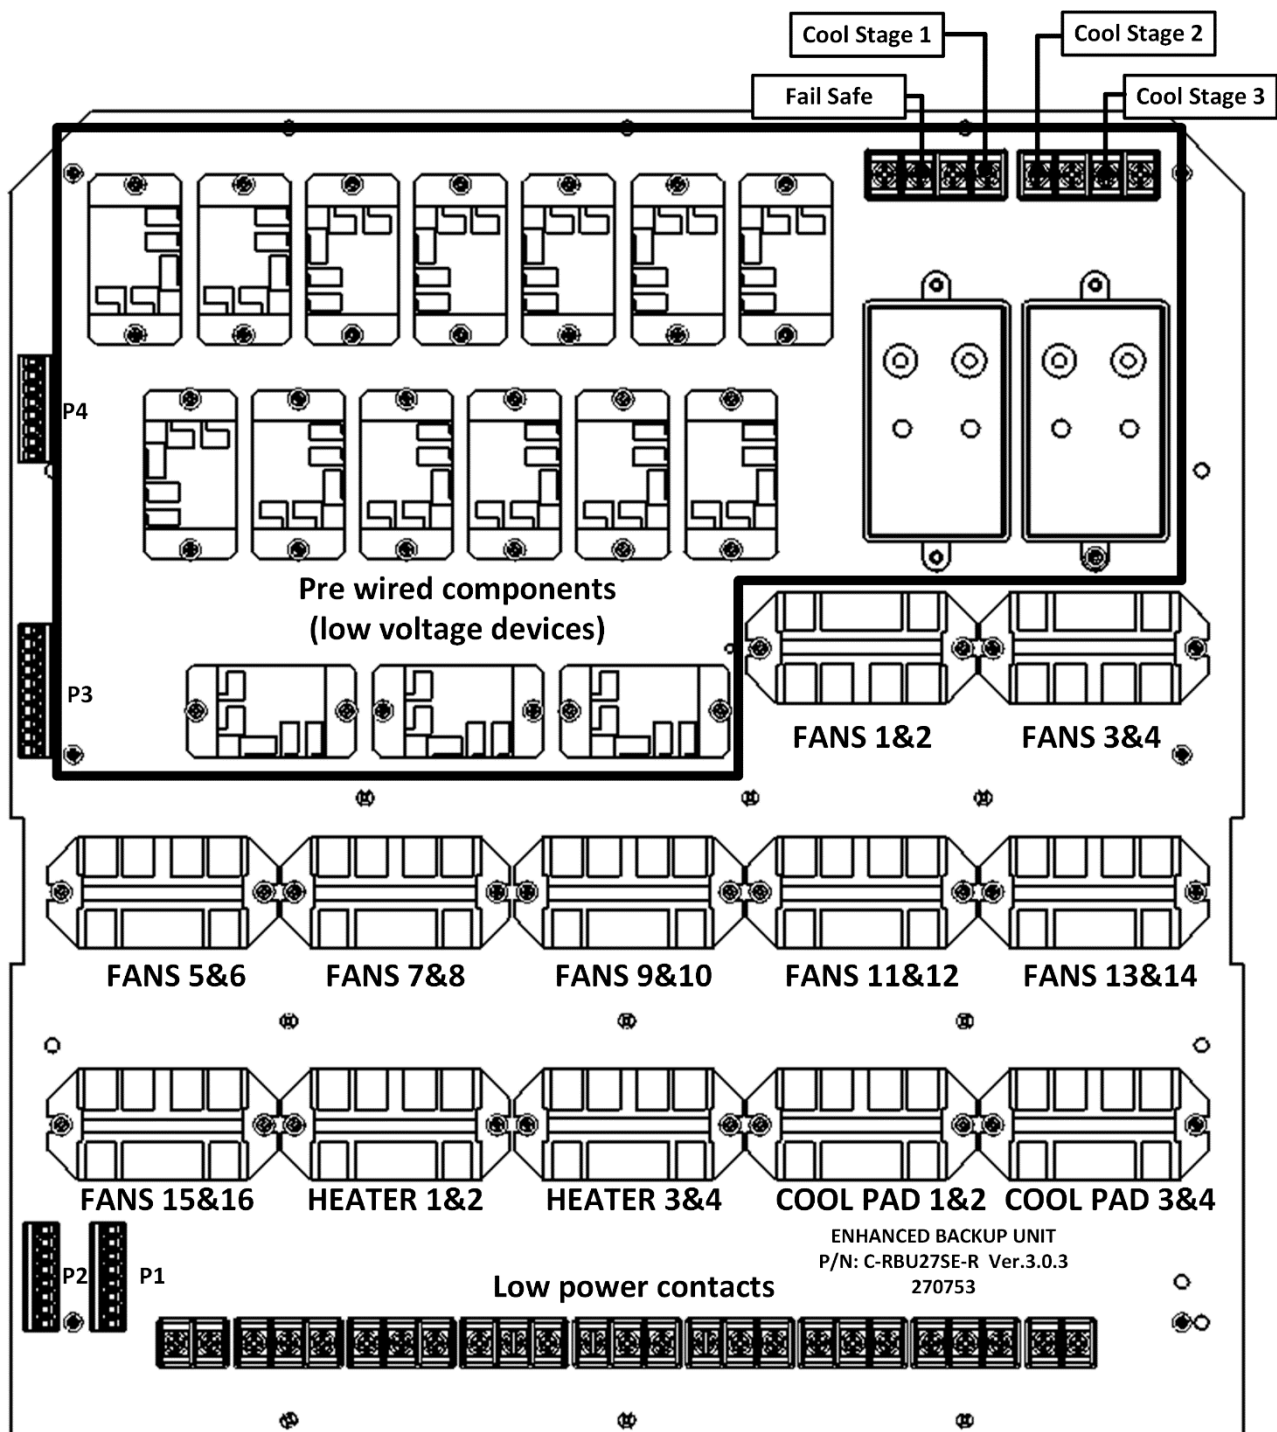

Figure 4: Card View
1. Connect the equipment according to the tags written on the PCB. Figure 4 displays some of the connections.
Figure 4 presents a view of the card divided into the following main sub-units: